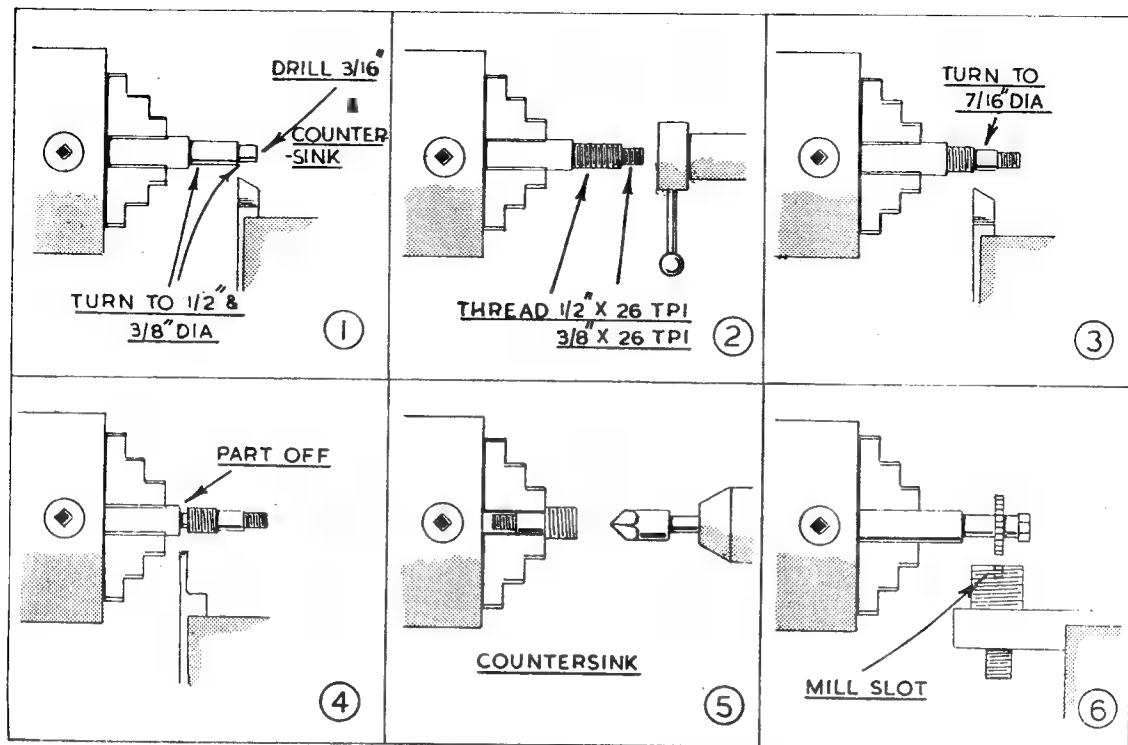

Fig. 3. The machining sequence for the body portion
operational drawing, Fig. 3. Time will be saved if the readings of the cross-slide index are noted when machining the first part with a right-hand knife tool, as these can be repeated for sizing the remaining parts. In the same way, reference to the leadscrew index will enable a uniform length to be maintained on the shouldered portions of the work-pieces.
As described in a previous article, and illustrated in Fig. 3 (6), the body can be held in an L-shaped bar, gripped in the lathe toolpost and drilled at centre height; but, here, it is advisable to secure the body in place with a nut. The slotting was actually carried out by screwing the body into a piece of bar, tapped  $\frac{1}{2}$  in.  $\times$  26 t.p.i., which was found in the scrap box. Another method is to grip a short length of square rod in the toolpost and to drill and tap it axially, but the end of the rod should be counter-drilled to allow the work to seat against its  $\frac{1}{2}$  in. diameter shoulder. After centring the work to the cutter, the slot is milled to depth, but does not extend as far as the screw threads. However,